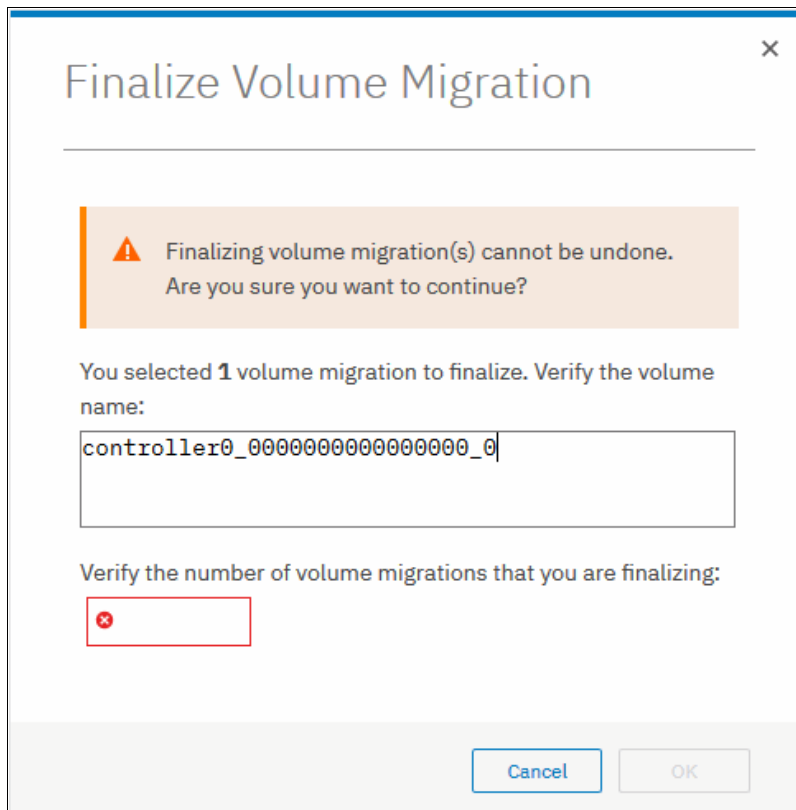

Figure 7-28 Confirm volumes to finalize
3. You are prompted to confirm the number of volume migrations that you want to finalize, as shown in Figure 7-28. Verify that the volume names and the number of migrations are correct and click **OK**.